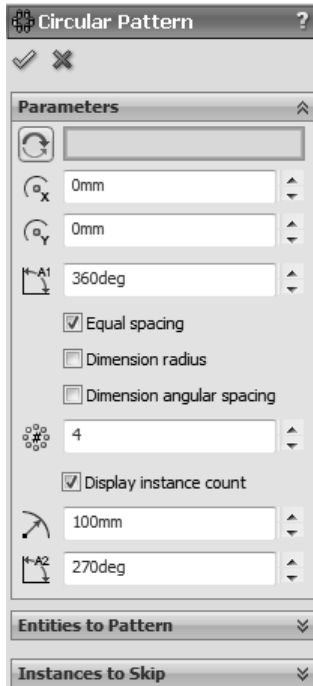

Figure 3-10 The *Circular Pattern* PropertyManager
23. Press the CTRL key and select both the horizontal lines and the arc of radius 10 mm by pressing the CTRL key. Next, choose the **Circular Sketch Pattern** tool from the **Linear Sketch Pattern** flyout in the **Sketch CommandManager**; the **Circular Pattern PropertyManager** is displayed, refer to Figure 3-10 and the preview of the circular pattern with default settings is displayed in the drawing area.